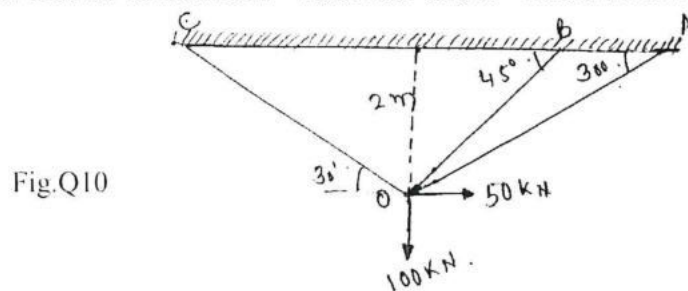

Fig.Q10
- 10 Analyze the pin-jointed truss shown in Fig.Q10 by stiffness matrix method. Take cross-sectional area for all members = 1000 mm2 and E = 200 kN/mm2.